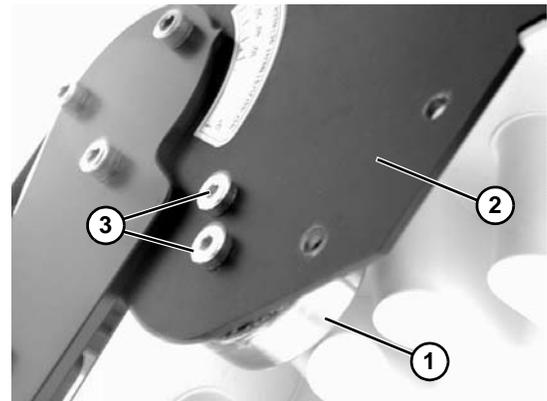

Figure 29
- If equipped, install return roller bearing (**Figure 29, item 1**) into knuckle plate (**Figure 29, item 2**) using screws (**Figure 29, item 3**).